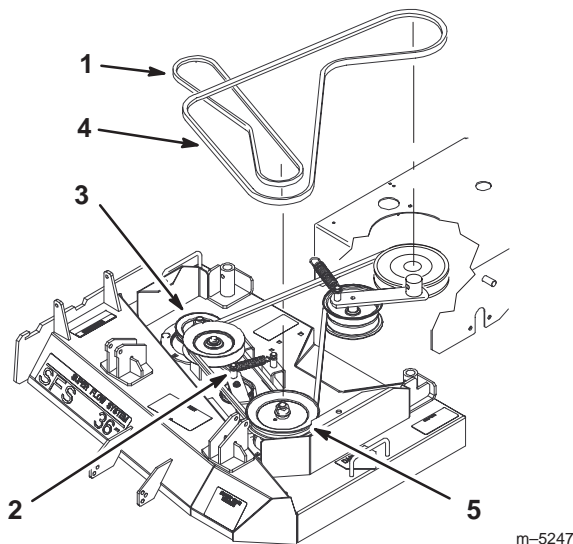

Figure 58
5. Disconnect the idler arm spring to relieve tension on the idler arm and idler pulley, then remove the worn deck belt (Fig. 58).
6. Install the new deck belt around the outward spindle pulley, the idler pulley, and in the lower groove of the double spindle pulley (Fig. 58).
7. Reconnect the idler arm spring (Fig. 58).
8. Adjust deck belt guide an 1/8 in. from belt (Fig. 58).